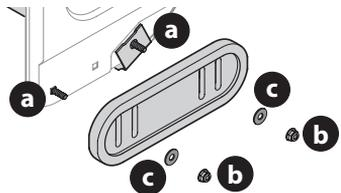

Figure 76
2. Rotate and reassemble new skid shoes with four carriage bolts (a) (two on each side) and hex flange nuts (b) and flat washers (c) (Figure 76).